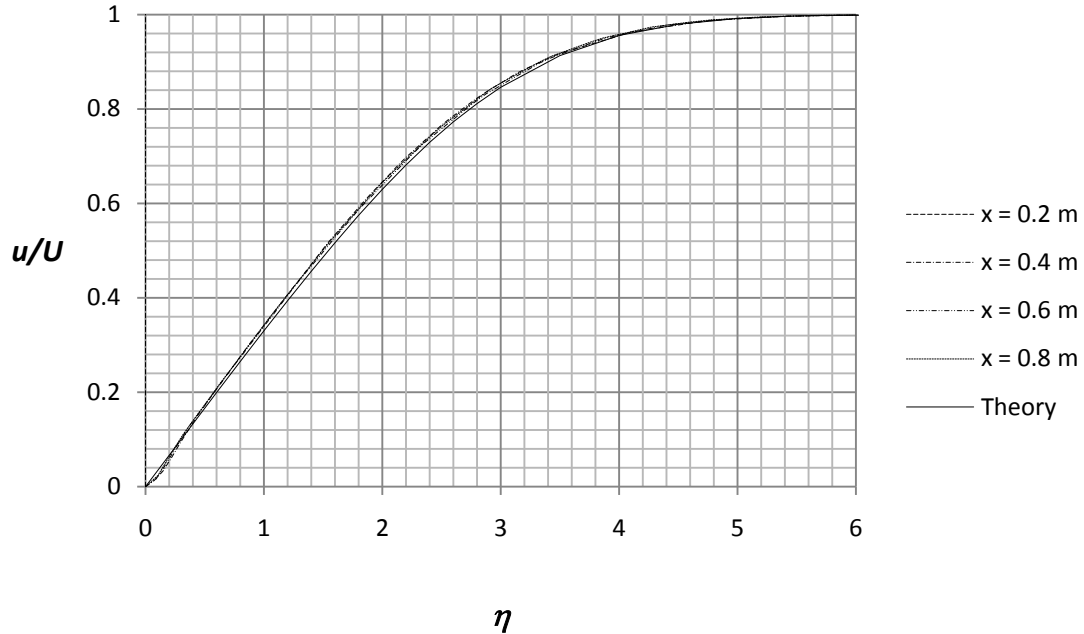

Figure 2.25a) Velocity profiles in comparison with the theoretical Blasius profile (full line)
26. Place the file “xy-plot figure 2.25a)” into the **Local Disk (C:)/SolidWorks/COSMOSFloWorks/FloWorks/lang/english/template/XY-Plots** folder to make it available in the **Template** list. Repeat step 24 and select the new template for the XY-plot. Rename the xy-plot to **Comparison with Blasius Profile**.
We see in figure 2.25a) that all profiles at different streamwise positions approximately collapse on the same Blasius curve when we use the boundary layer similarity coordinate.